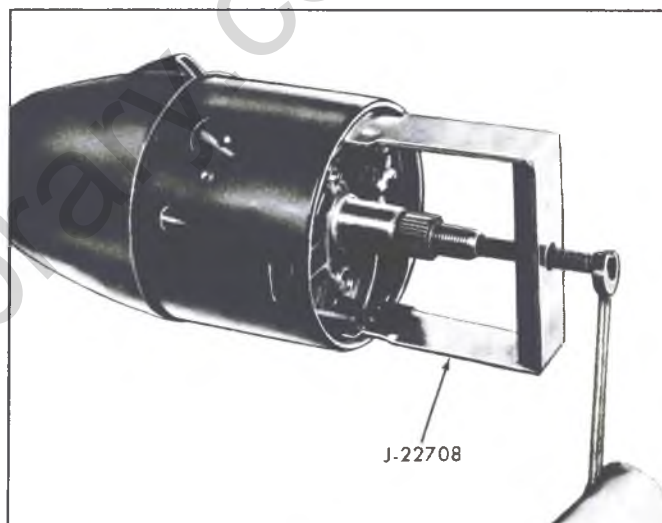

Fig. 85—Removing Directional Signal Housing Cover
- c. Assemble Tool J-22708 inside the directional signal housing cover; push in until the tangs lock inside the cover flange (fig. 85). Turn the tool center screw clockwise to pull the cover from the housing.